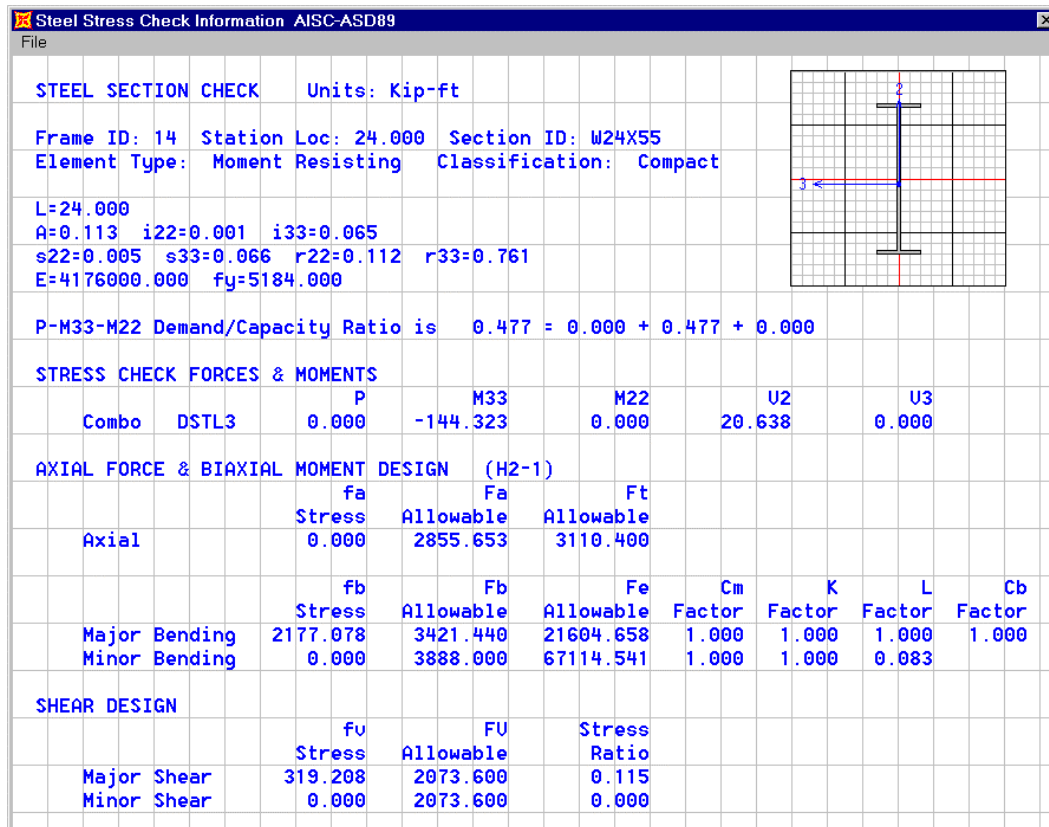

Figure C-21: Detailed Steel Stress Check Information
- 18 To get additional detail on any item in this dialog box, highlight the item and click the Details button. A detailed form with design information, similar to that shown in Figure C-21 will appear. Note you can print this form by clicking the associated File menu and selecting **Print**. Click the “X” in the upper right-hand corner of this detailed form to close it.